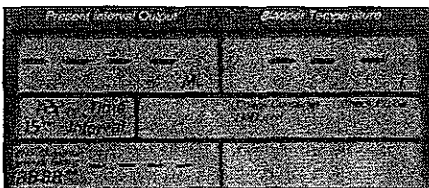

Figure 4
Once the self test is completed and successful, the display should resemble Figure 4 with the exception of Not Level Indicator.
**Note:** The current time of day, time of the previously selected interval and interval length may differ from Figure 4.